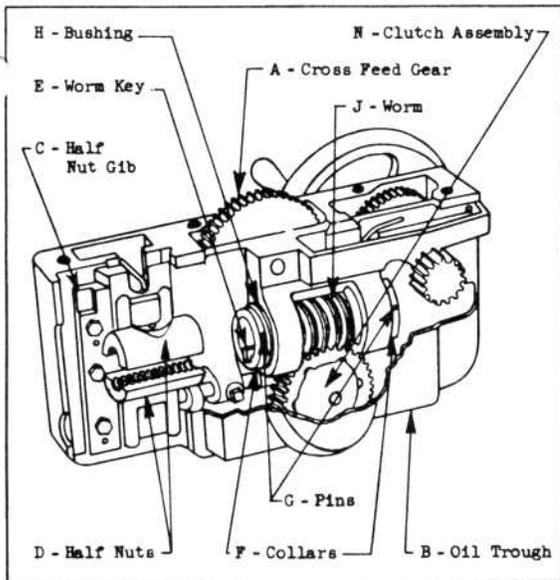
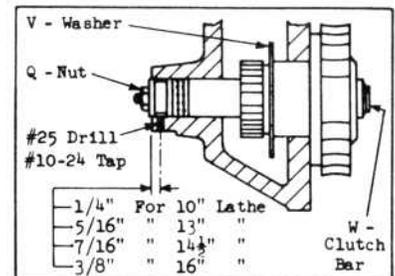
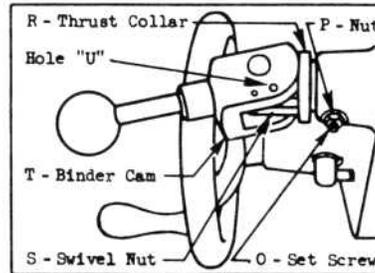
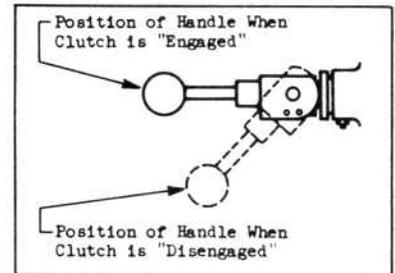

Fig. 1
Fig. 3
Fig. 4
Fig. 5
7. Remove apron from lathe by lifting up on the front of the saddle so the cross feed gear "A" (Fig. 1) in the apron will clear the saddle. Then slide apron off the lead screw at the tailstock end of the lathe but be careful not to bend lead screw.
8. Remove oil trough "B", half nut gib "C", half nuts "D" and key "E" (Fig. 1).
9. Mark the two collars "F" (Fig. 1) so when reassembling they can be replaced in their original position. Then drive out the two pins at "G" and unscrew both collars "F".
10. Remove bushing "H" (Fig. 1) carefully to avoid tearing felt wick. Note how felt wick is wrapped around worm gear. With bushing removed draw wick through hole bored for bushing.
13. Remove clutch assembly "N" (Fig. 1) from back of apron. The oil distributing washer "V" (Fig. 3) on the clutch may have to be positioned to permit removing.
14. Drill and tap hole in bottom of apron hub as shown in Fig. 3, then file bottom of hub flat so nut can be locked against this surface.
15. Install screw "O" and nut "P" (Fig. 4) but do not let screw "O" protrude into bored hole.
16. Position oil distributing washer "V" (Fig. 3) inside apron and insert new clutch assembly (Fig. 3). Apply slight pressure on clutch bar "W" (Fig. 3) and tighten set screw "O" and nut "P" (Fig. 4).
17. Apply pressure on clutch bar "W" (Fig. 3), remove nut "Q" and commercial washers (discard nut and washers). Maintain pressure on clutch bar, install collar "R" and swivel nut "S" (Fig. 4). Screw the swivel nut on tight enough so the handle will lock itself against the thrust collar in the "engaged" position (Fig. 5). It is important to maintain pressure on clutch bar until swivel nut "S" is fastened as allowing it to back up more than $\frac{3}{32}$ " may cause the outside clutch plate to drop over the clutch sleeve and become distorted when tightened later.
18. Swing handle into a down or "disengaged" position (Fig. 5) and tighten swivel nut "S" (draw up as tight as possible) with Allen head wrench through hole shown at "U" (Fig. 4).
29. The clutch lever can be positioned (Fig. 5) by loosening set screw "O" and rotating the complete clutch assembly, then tighten set screw "O" and lock with nut "P". BEFORE TIGHTENING THE SET SCREW, HOWEVER, PULL SLIGHTLY ON THE CLUTCH LEVER ALLOWING THE CLUTCH MECHANISM TO COME FORWARD AS FAR AS POSSIBLE.